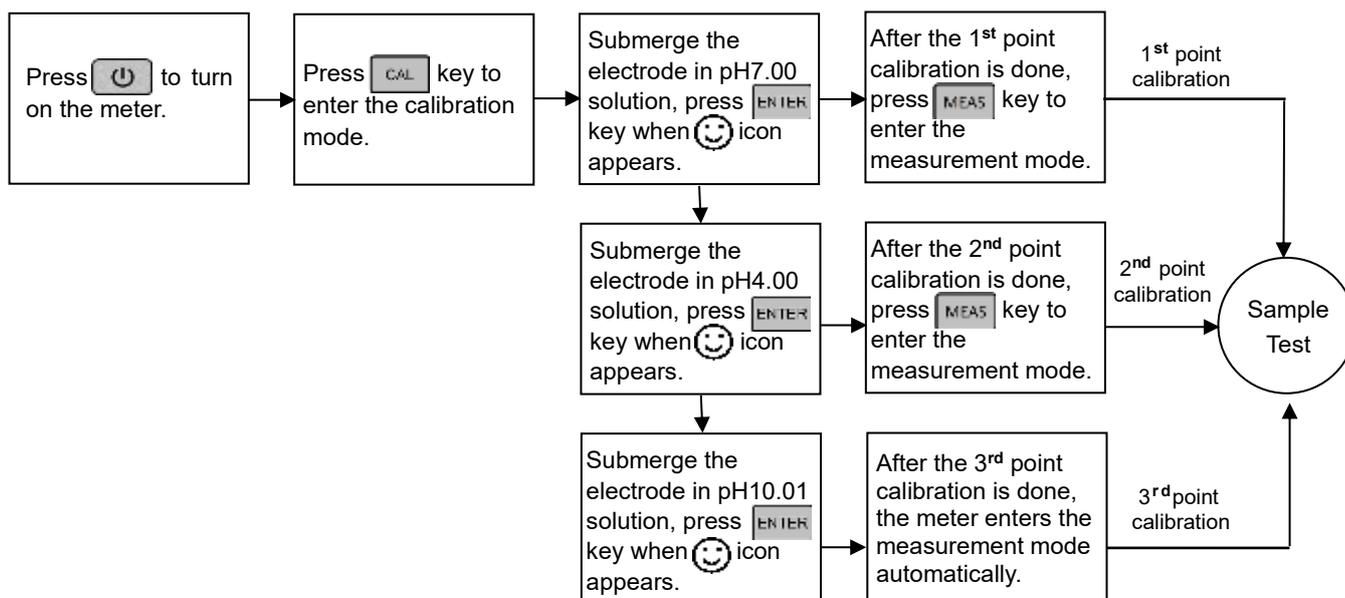

Figure-10
5.6.1 Rinse the pH electrode in distilled water or purified water, dry it, and dip it into sample solution. Stir the solution gently and let it stand still in the sample solution until  icon appears and stays on LCD, get the pH reading, which is pH value of sample solution, please refer to Figure-10 for calibration and measurement process of the pH meter.